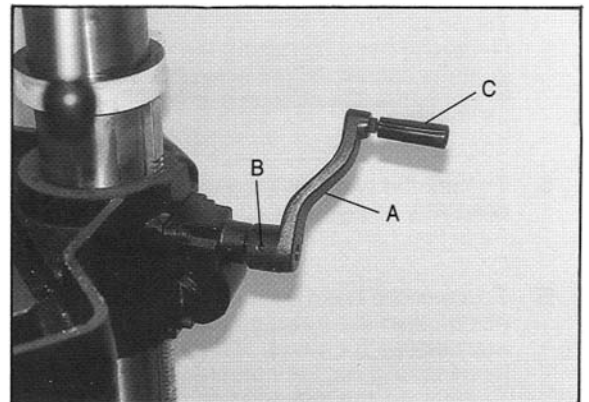

Figure 1
1. Slide crank (A, Figure 1) onto the table raising assembly shaft.
2. Tighten the set screw (B, Figure 1) to hold the crank in place.
3. Install the handle (C, Figure 1) onto the crank.